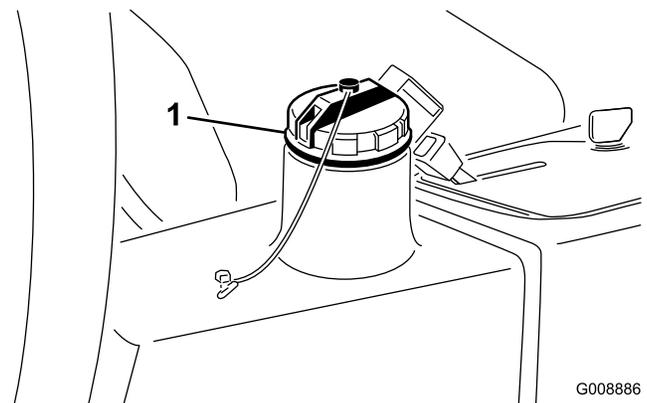

**Figure 65**
2. Disconnect the hydraulic line (Figure 65) or remove the hydraulic filter (Figure 64) and let the hydraulic fluid